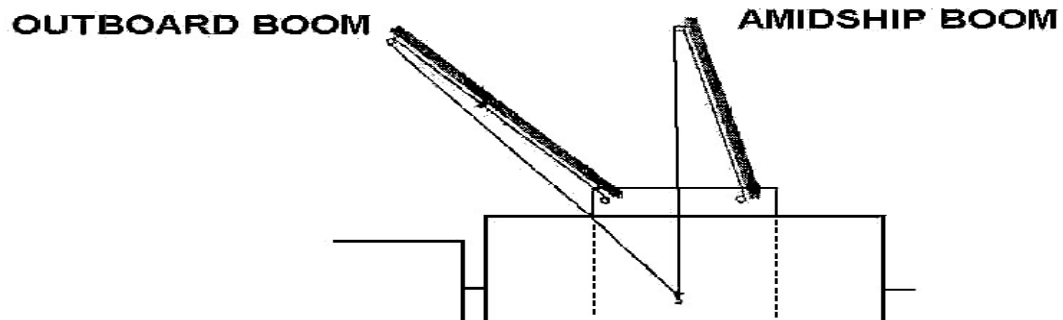

Figure 3-151
1. Direct the rigging of a yard-and-stay rig (see Figure 3-151).